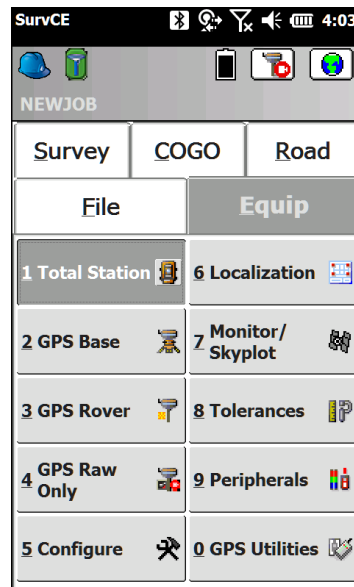

Figure 2
3. Tap the Equip button and tap Peripherals or type 9 (Fig.2)